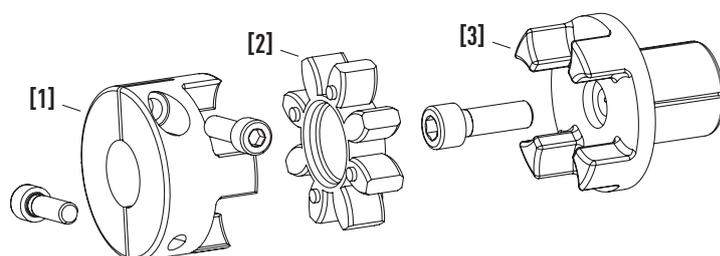

Fig. 6.48 Coupling assembly variant 2: clamping hubs with two clamping screws
- Variant 2 with two clamping screws, see Fig. 6.48